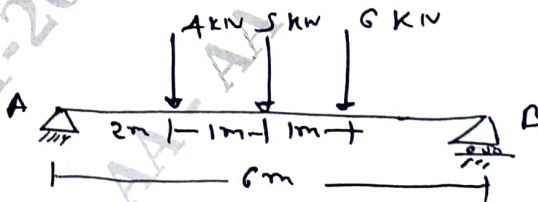

Fig.Q3(a)
- 3 a. Find the support reactions for the beam shown in Fig.Q3(a).